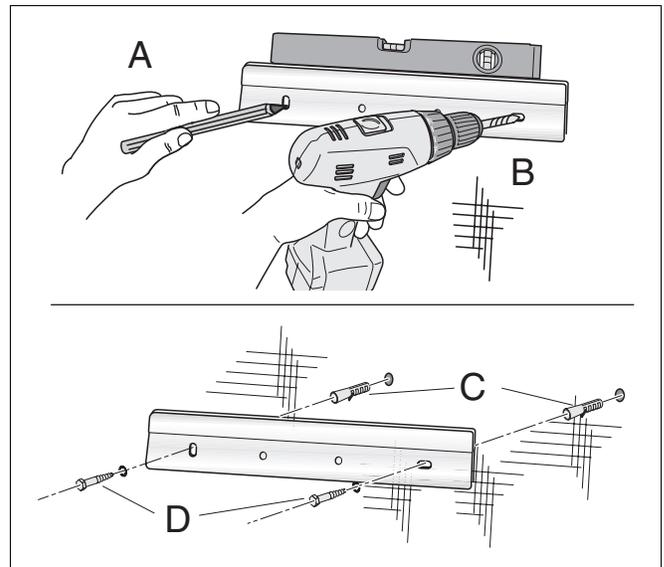

Fig. 7 Installing the wall bracket
- Mark both holes with the wall bracket (fig. 7) using a spirit level.
- Install the wall bracket with 2 screws (fig. 7).